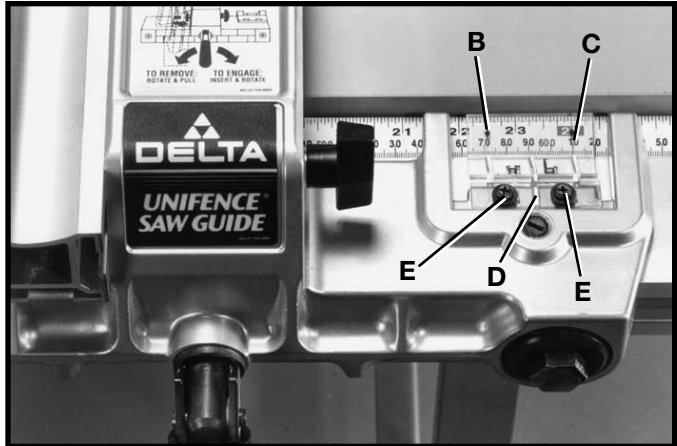

Fig. 113
5. The distance the fence is positioned away from the blade is indicated by the two witness lines (B) and (C) Fig. 113, located on the cursor (D). The witness lines (B) and (C) indicate the distance the fence is positioned away from the saw blade. Witness line (B) indicates the distance the fence is away from the blade when the fence is in the horizontal position (Fig. 111), and witness line (C) indicates the distance the fence is away from the blade when the fence is in the vertical position (Fig. 110). To adjust cursor (D), make a test cut with the fence in either the vertical or horizontal position, measure the distance of the finished cut and move the cursor (D) by loosening the two screws (E) Fig. 113. After adjustment is completed, tighten the two screws (E).